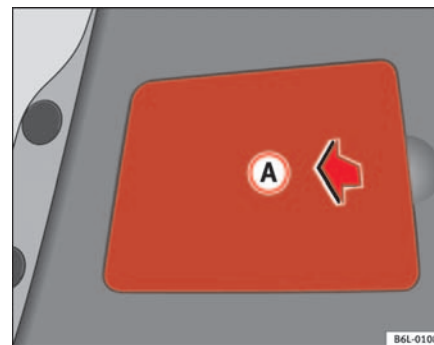

Fig. 153 Rear light on tailgate
- Remove plastic cover (A) ⇒ page 215, fig. 153, insert finger in opening and pull in the direction of the arrow.